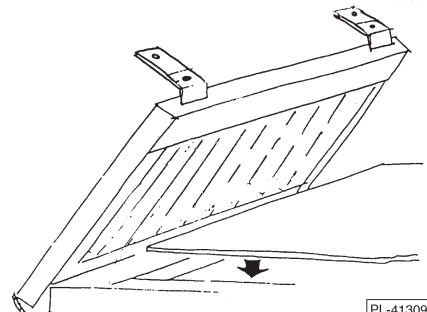

Fig. 13
8. Place a towel on top of the Front Blade Frame (Fig. 13).